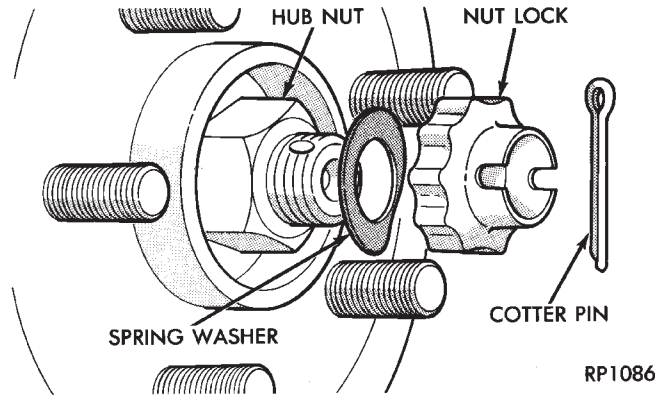

Fig. 2 Cotter Pin, Nut Lock and Spring Washer
- (1) Remove cotter pin, nut lock, and spring washer from the end of the outer C/V joint stub axle (Fig. 2).
- (2) Loosen (but do not remove) stub axle to hub/bearing retaining nut. Loosen hub nut while vehicle